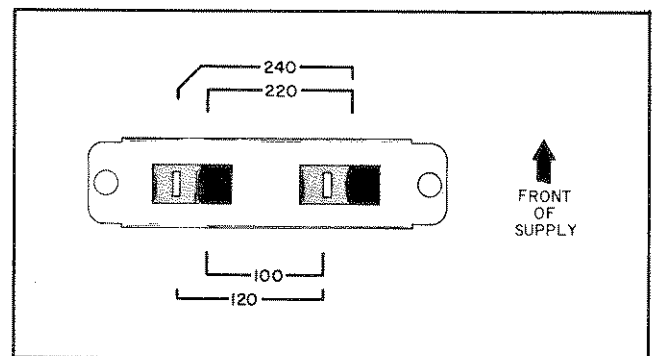

Figure 3-2. Line Voltage Selector (Set for 120 Vac)
*Before applying power to the supply, make certain that its line voltage selector switch (S3) is set for the line voltage to be used. This switch is mounted on the circuit board behind the voltmeter and is visible through the perforations in the top cover. The positions of the two white marks on the switch indicate the switch setting (see Figure 3-2). If the switch setting does not correspond to the intended power source, proceed to Paragraph 3-4 before applying power.*
1. After making certain that the line cord is disconnected from a source of power, remove the top cover from the supply and set the two sections of the line voltage selector switch for the desired line voltage (see Figure 3-2).